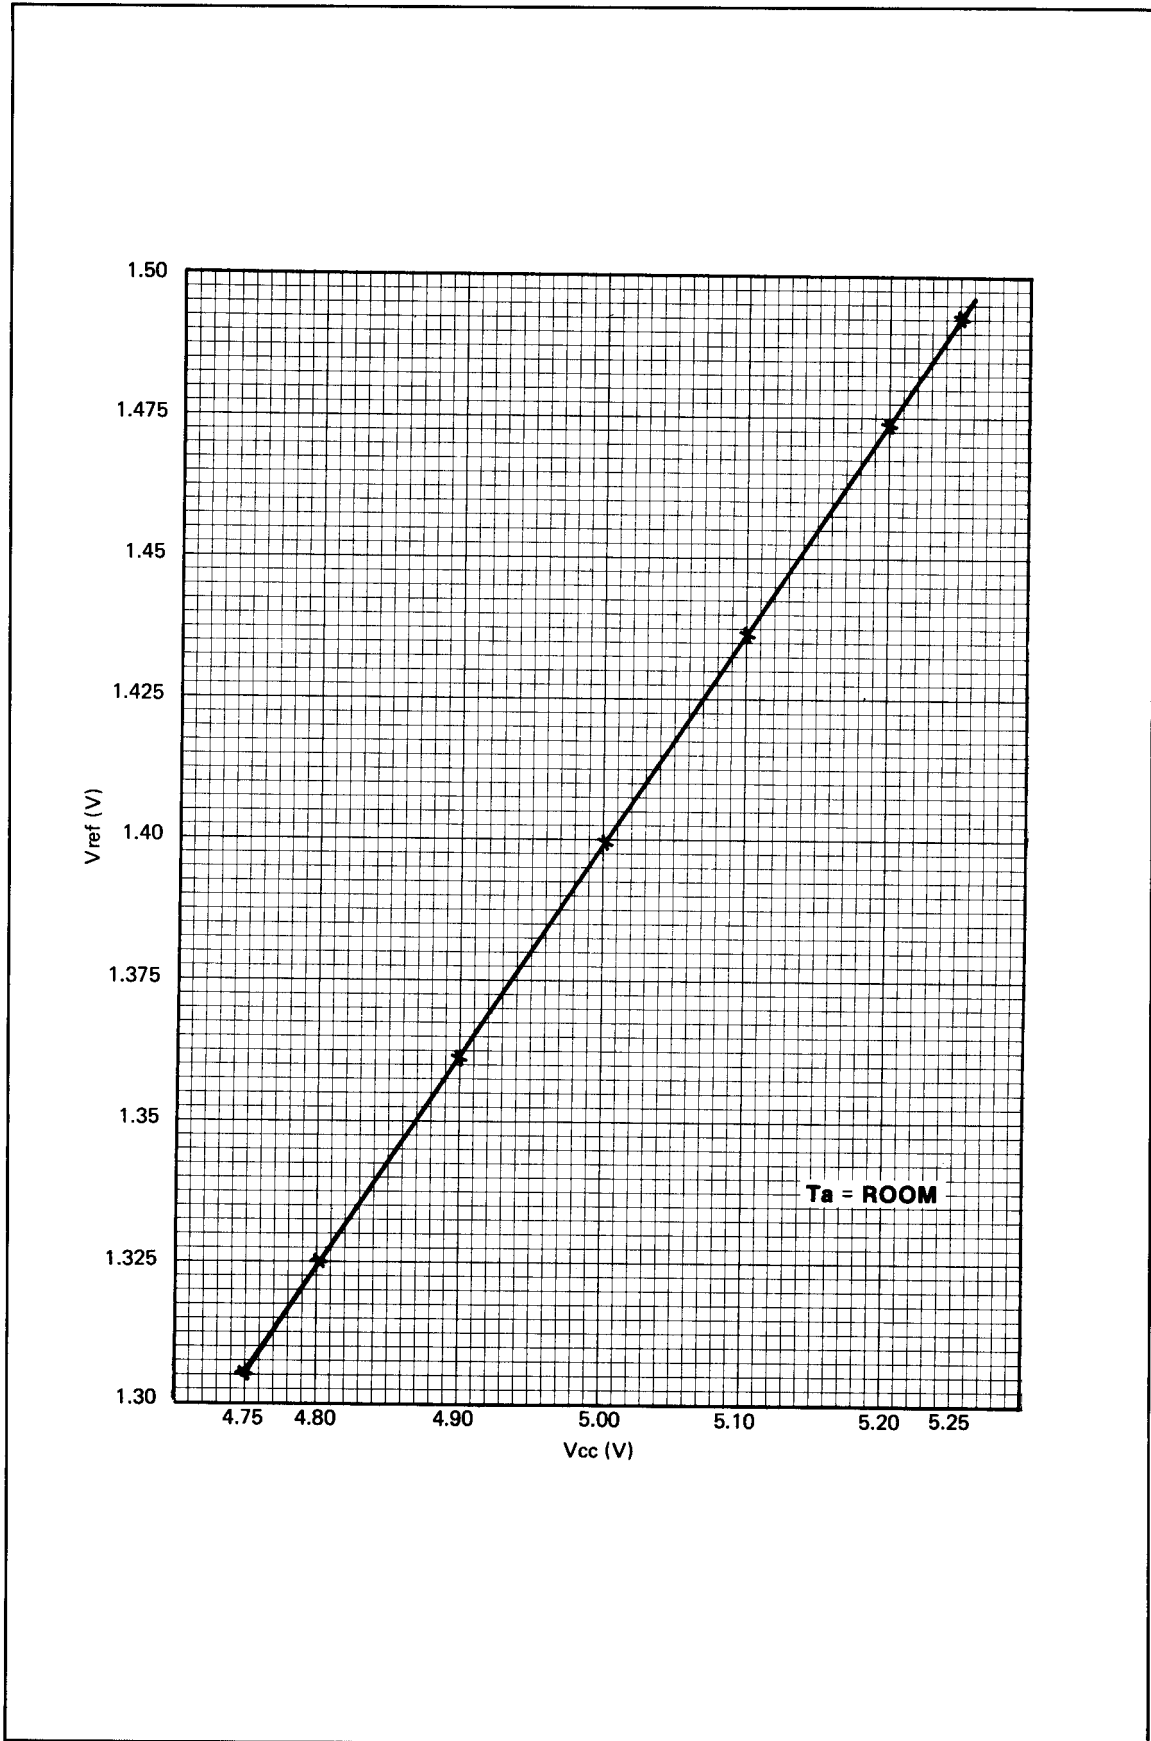

Figure 5-1. Data Probe  $V_{CC}$ — $V_{ref}$  Graph
- c. Connect the positive test lead to U1(5). Compare this voltage with the  $V_{ref}$  voltage corresponding to the  $V_{CC}$  (step b) on *Figure 5-1*.
*Figure 5-1* is a graph relating the U1 pin 5 voltage to U1 pin 7 voltage.